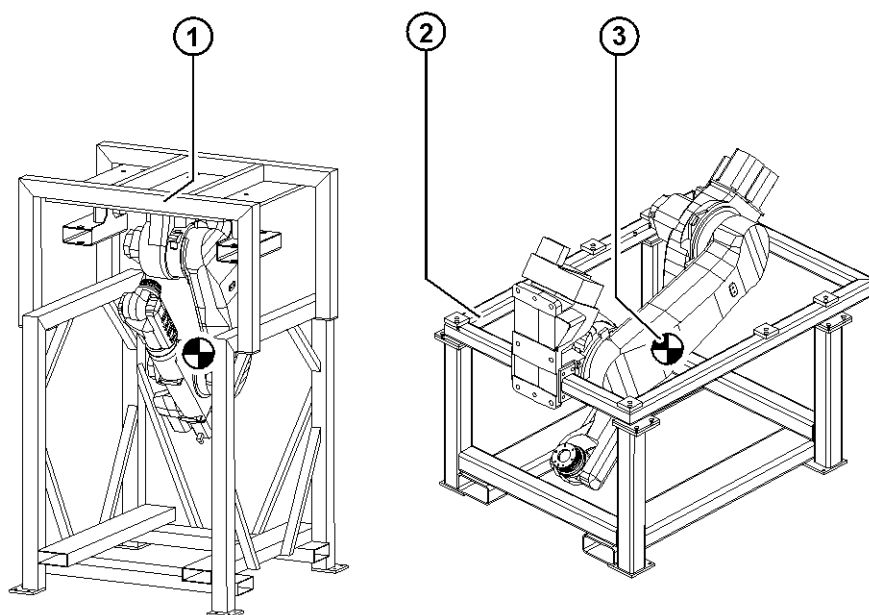

Fig. 7-5: Transport frame
For installation on the wall or ceiling, the robot is transported in a corresponding transport frame (>>> Fig. 7-5) (1), (2). For this the robot must be brought into the transport position before installation in the transport frame. The transport frame can be picked up with a fork lift truck or using lifting tackle (4 ropes). The center of gravity (3) must be taken into account during transportation.